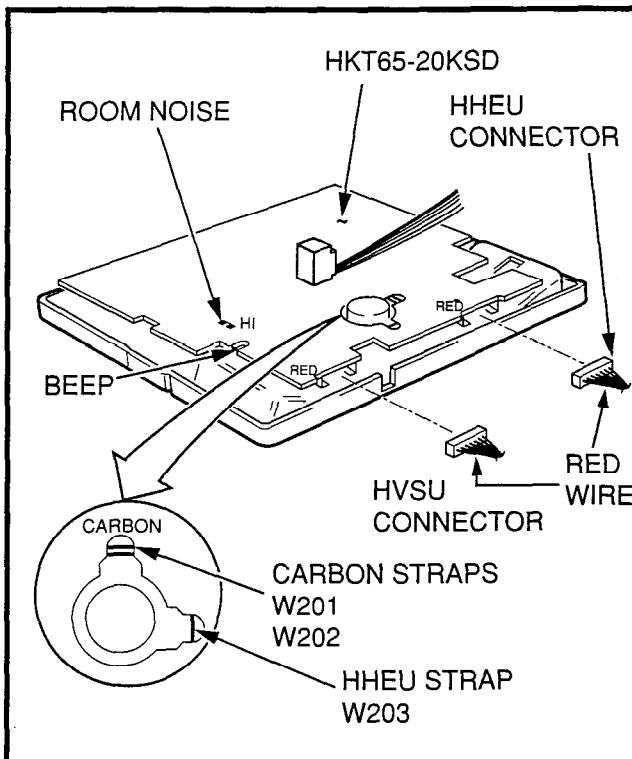

FIGURE 4-28
- 4) Connect the HVSU/HVSI PCBs to the electronic telephone PCB as shown in Figure 4-28.